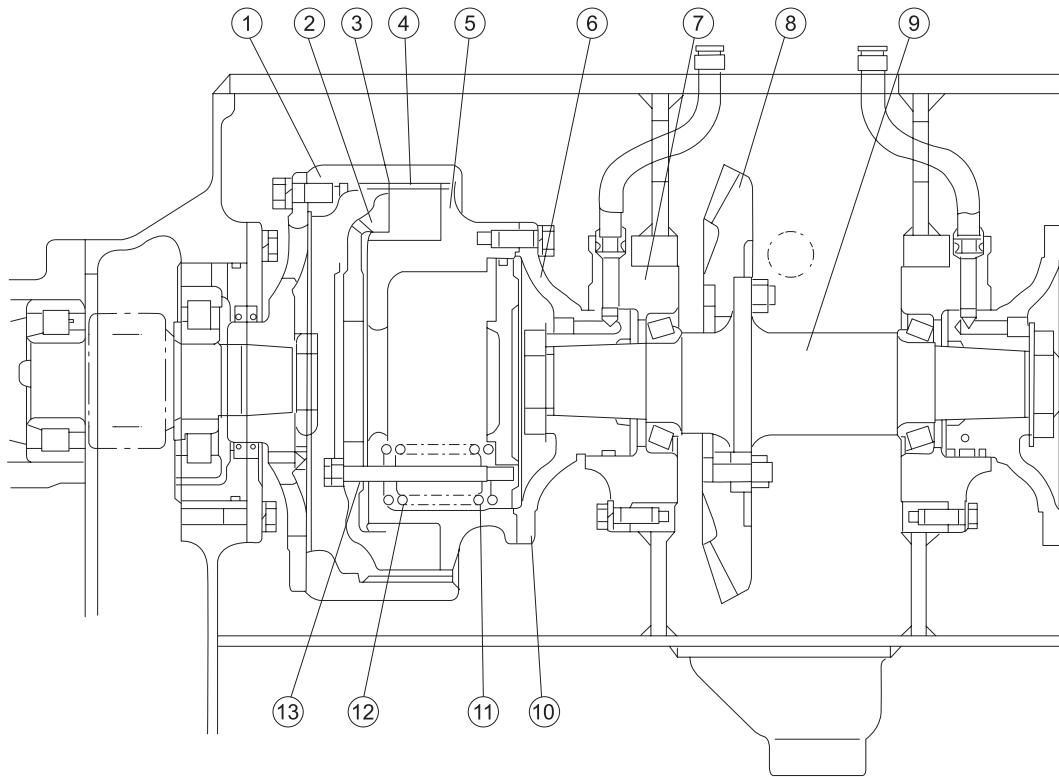

Figure 3-30
3.5 CENTRAL DRIVE (SEE FIGURE 3-30)